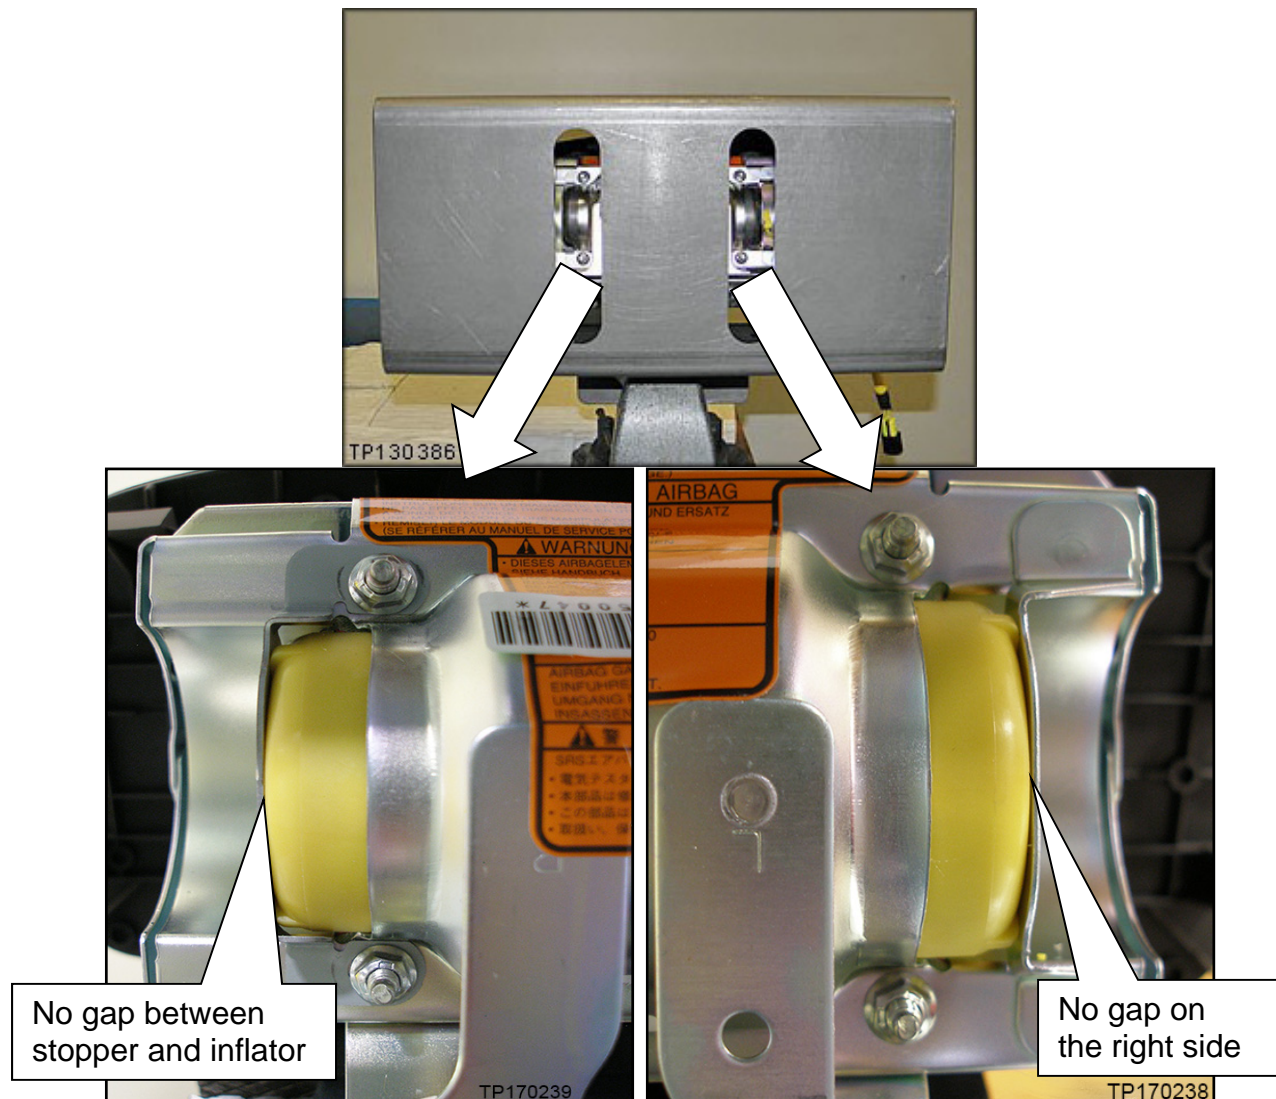

Figure 31
34. Install the four (4) inflator securing nuts finger tight (Figure 31).
35. Make sure the inflator is pushed all the way into its housing – no gap on the right side (Figure 31).
36. Make sure there is no gap between the inflator stopper and the inflator (Figure 31).